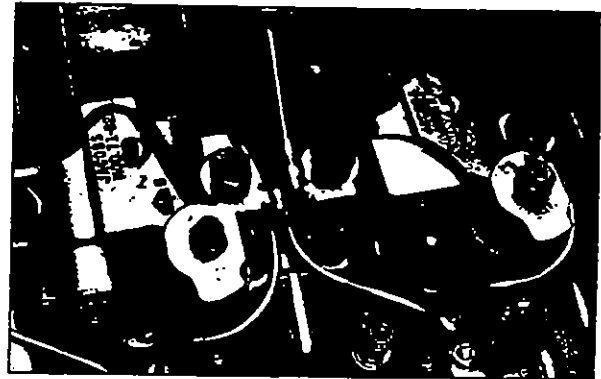

Fig. 1.6.14
- Reposition the seal ring in the head of the oil connector to make sure it fits into the recessed hex head of the connector screw (Fig. 1.6.14).